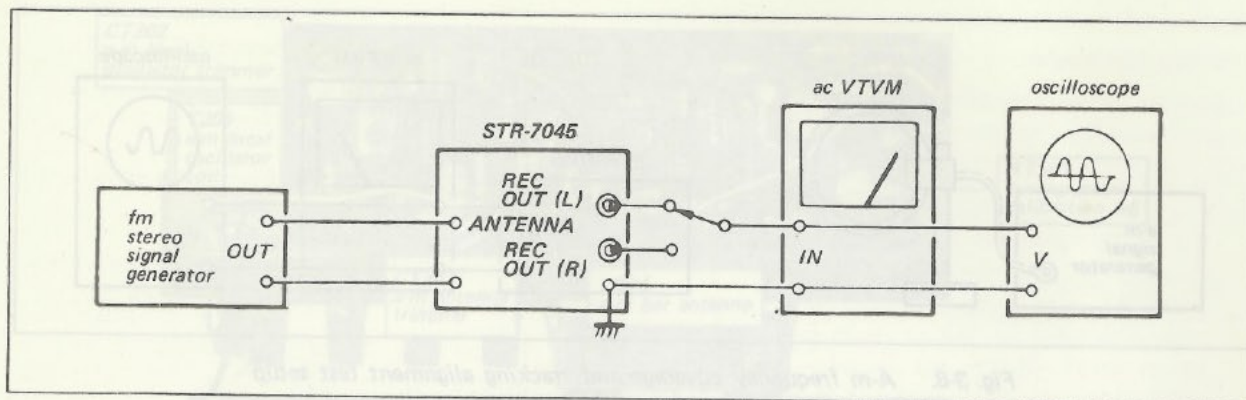

Fig. 3-6. Fm stereo separation adjustment test setup
2. Connect the equipment as shown in Fig. 3-6, then set the fm stereo signal generator controls as follows: